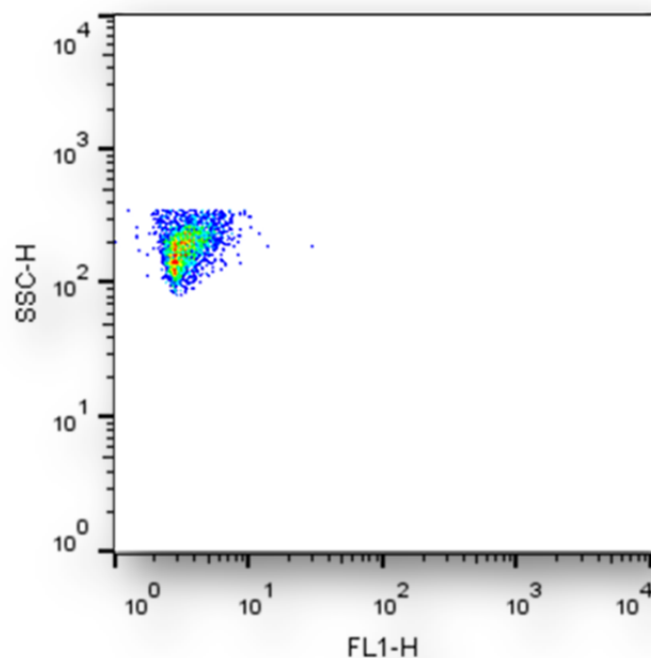

Figure 2. Using the negative control cells, FITC voltage is adjusted so that the cell population shows a low MFI along the X-axis.
- c. Create a plot dependent on the “Control” gate, with SSC on the Y axis and the FITC channel on the X axis. Using unstained negative control cells, adjust the FITC detector voltages in log view so that each plot shows the cell population at the lowest MFI possible with a small buffer between the population and plot axis (Figure 2).